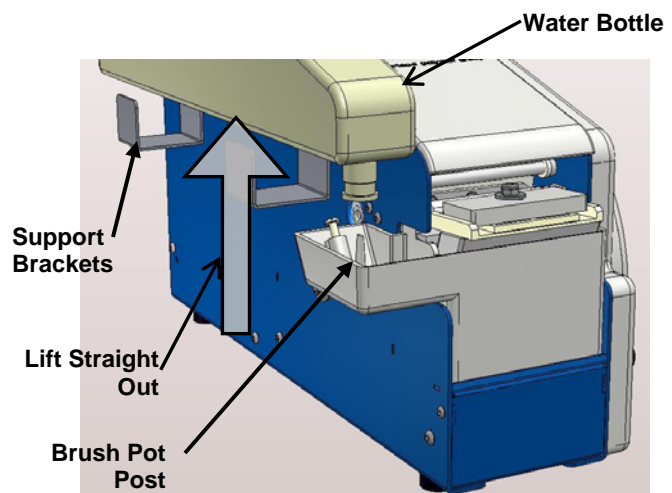

Figure 7-8
1. Remove the water bottle by pulling it straight up from the brush pot. (See **Figure 7-8**)
1. Lift off the water bottle from the **Brush Pot Post** as shown in **Figure 7-8**